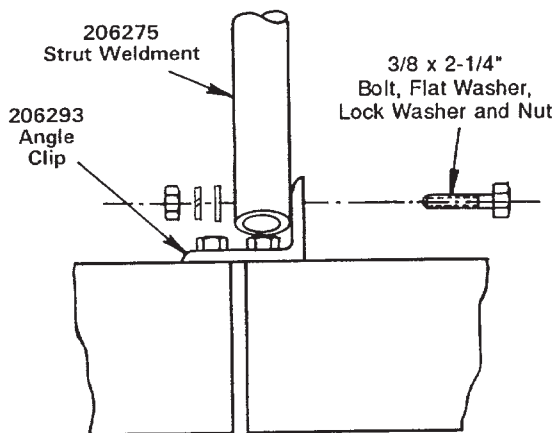

Figure 4-4
4.4 Refer to Figure 4-4. Carefully raise and attach pre-assembled subreflector/strut assemblies to corresponding angle clips as shown using supplied bolts, flat washers, lock washers and nuts. Securely tighten all subreflector/strut assembly mounting hardware while temporarily leaving subreflector adjustment hardware loosely attached. Remove temporary lifting strap.